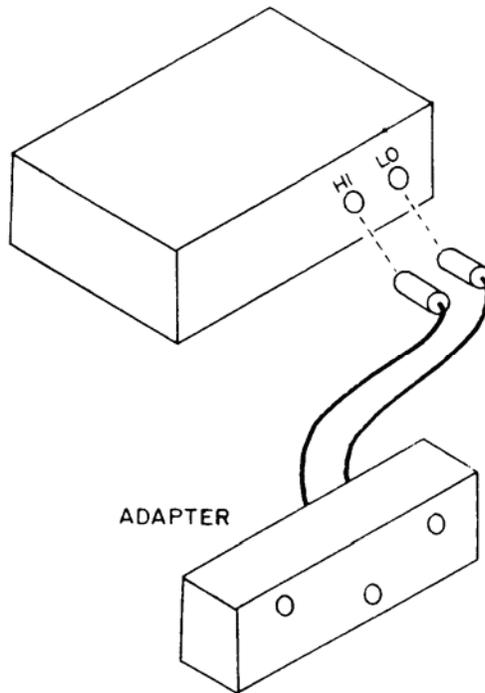

Figure 1. Adapter connection-equipment setup.
- h. Connect adapter (furnished with TI) to TI as shown in figure 1.
- (11) Connect adapter (furnished with TI) to TI as shown in figure 1.
- (12) Connect the 1 G Ω resistor of resistance standard set to adapter furnished with TI.
- (13) Repeat technique of (2) through (8) above. Position controls as listed in table 4 to correspond to resistor being measured. If average value in (8) above is not within twice the calibration test report accuracy (see footnote, table 1) for the 1 G Ω resistor, perform **b** below.
- (14) Repeat technique of (12) and (13) above for the 10 G Ω resistor of resistance standard set, except no adjustment can be made.